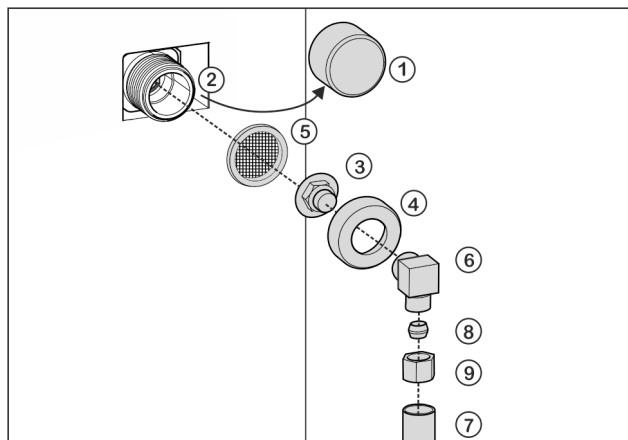

Fig. 19
- Remove cap Fig. 19 (1) from solenoid valve Fig. 19 (2).
- Insert coupler Fig. 19 (3) into union nut Fig. 19 (4).
- Insert the filter Fig. 19 (5) with the recess pointing down towards the coupler Fig. 19 (3).
- Screw the union nut Fig. 19 (4) by hand onto the thread of the solenoid valve Fig. 19 (2) until it is firmly in place.
- ▶ Screw on angle piece *Fig. 19 (6)*.
- ▶ Connect the water pipe *Fig. 19 (7)* (e. g. 1/4" OD copper pipe) with the clamp ring *Fig. 19 (8)* and nut *Fig. 19 (9)* to the elbow connector *Fig. 19 (6)*.
- ▶ If necessary: Fasten the water pipe *Fig. 19 (7)* to the housing with the guide clip.
- ▶ Put angle piece *Fig. 19 (6)* to one side.
- ▶ Connect the water pipe *Fig. 19 (7)* (e. g. 1/4" OD copper pipe) with the clamp ring *Fig. 19 (8)* and nut *Fig. 19 (9)* to the coupler *Fig. 19 (3)*.